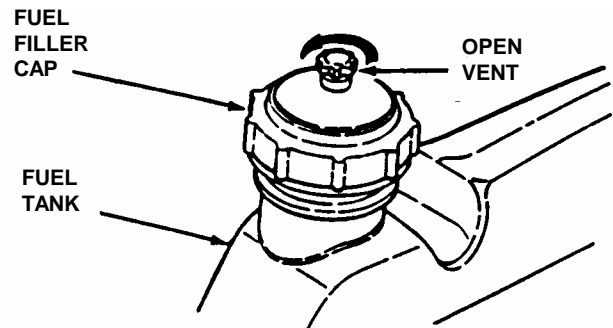

FIGURE 2.3
2.1.6. Add fuel to tank of the YARD CRUISER outside where fumes can safely dissipate. Make sure fuel filler cap is tight and vent is open after refueling. See Figure 2.3. Refer to engine owner's manual for fuel specifications.
4. Open vent on fuel filler cap by turning counterclockwise. **IMPORTANT:** Failure to open vent on the fuel filler cap can cause engine to stall. See Figure 2.3.
1. Make sure fuel cap is on tight. Start engine and allow it to run until engine runs out of fuel. Close vent on fuel filler cap. See Figure 2.3.